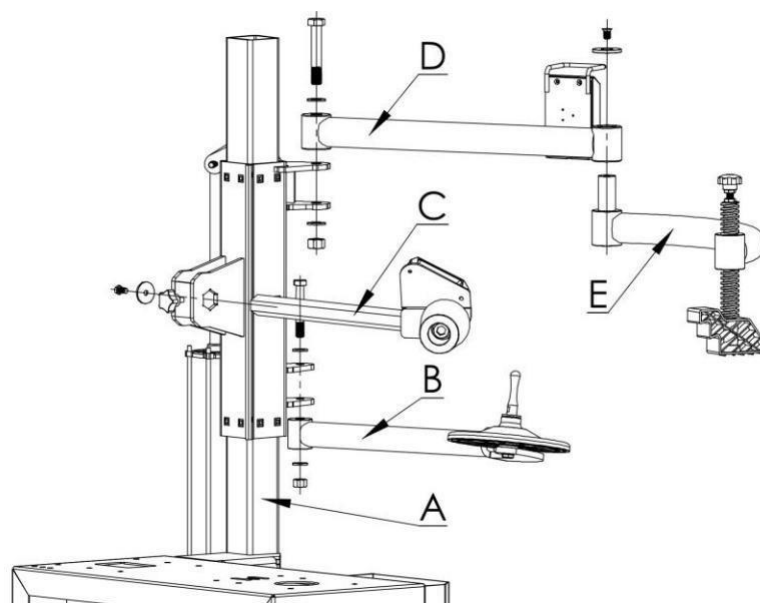

Fig.6
- As Fig.6, Install part B, part C, part E with wrench, screws and flat washers, make ~~se~~ screws are fastened.